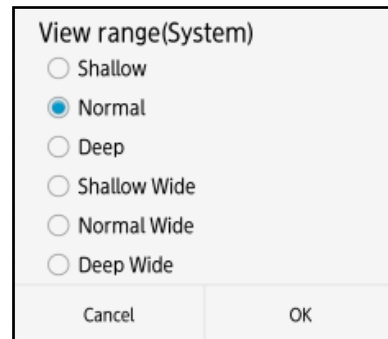

Figure 4-27 View range setup screen
- (1) Tap Device setting: **[View range]** menu. Then the view range setup (device) screen (Figure 4-27) appears. The mark ● shows the current setting.
- (2) Tap a desired setting, and confirm the mark ● is moved to the selected setting.
- (3) Tap **[OK]** to return to the parameter setup screen. To cancel the setting change, tap **[Cancel]**, then the screen returns to the parameter setup screen without setting change.
- (4) Tap **[Return to the main window]** to return to the main screen.